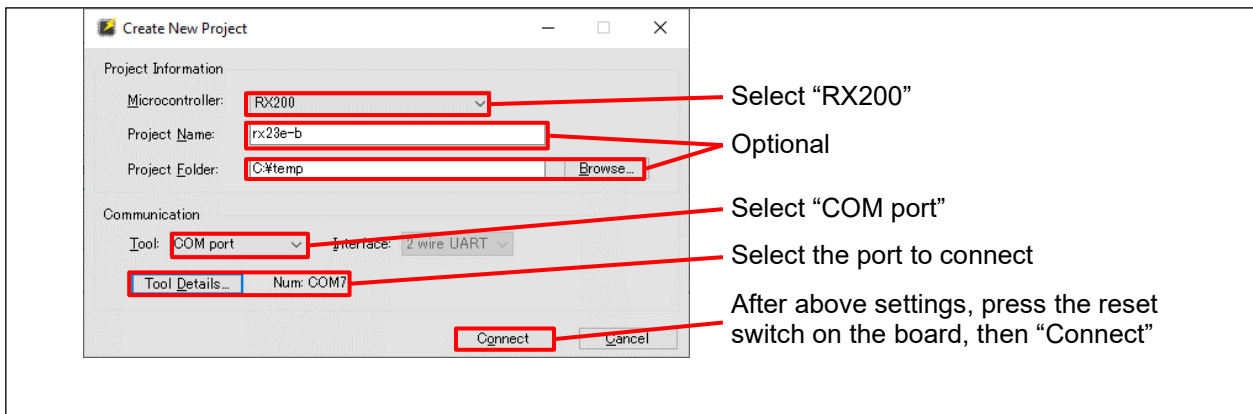

Figure 3-4 Renesas Flash Programmer "Create a New Project"
3. Activate Renesas Flash Programmer, configure settings from menu “File” > “Create a new project” referring to Figure 3-4, press the reset switch on the RSSKRX23E-B board, then press “Connect”.